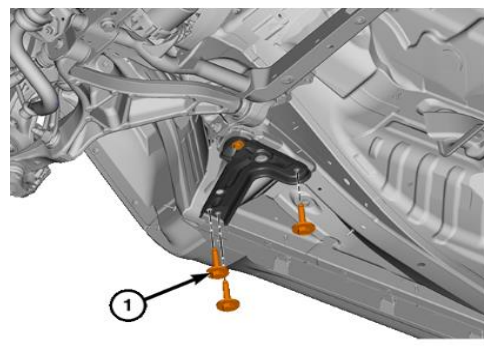

Figure 15 - Bracket
- 30. Remove the bolts (1) from the rear brackets (Figure 15).
18. Install and tighten the six engine cradle stiffener bracket bolts to 20N·m (15ft. lbs.) (Figure 15).